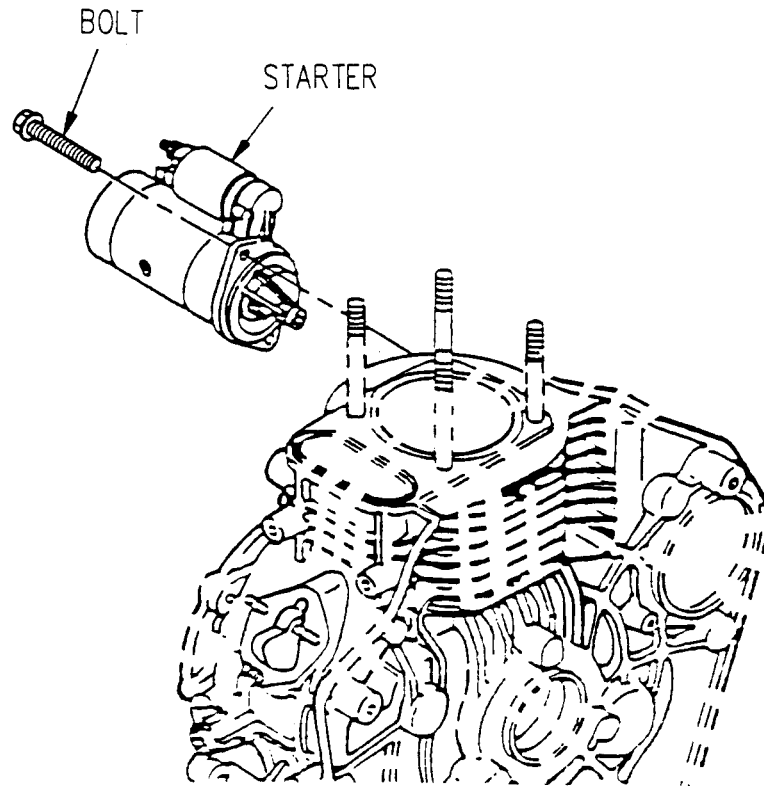

Figure 5-4. Starter (MEP-531A)
- (1) Shut down generator set.
- (2) Tag and disconnect electrical leads from starter assembly (Figure 5-4).
- (1) Install starter assembly (Figure 5-4) on engine with bolts.
- (2) Install AC alternator assembly (MEP-531A), refer to paragraph 5.26.g.
- (3) Connect electrical leads and remove tags.
- (4) Check starter assembly for proper operation.